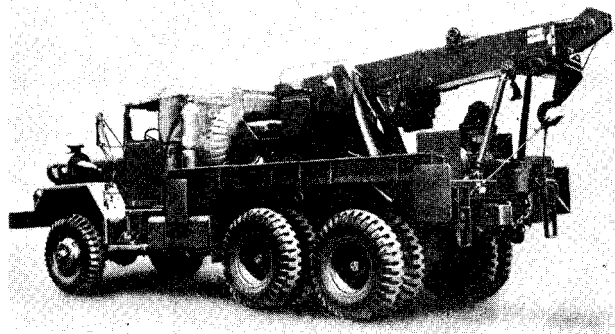

Figure 2-5. Truck, wrecker, medium, 5-ton, 6x6, M816.
e. *Truck, Wrecker, M816 (Fig 2-5).* This truck has a 179-inch wheel base, with a 20,000-pound-capacity hydraulically operated crane and a 10-foot to 18-foot boom.